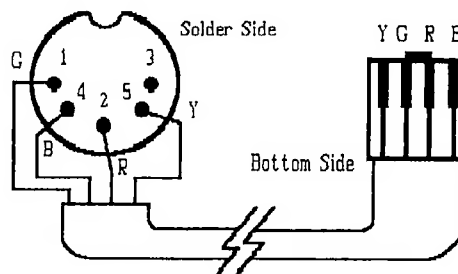

Figure 2. Wire Connection Diagram.
Refer to the schematic shown in Figure 2. The 5-pin DIN jack is viewed from the solder side. The modular handset cable is viewed from the bottom. The four copper conductors face you, the plastic tab faces away from you, and the cable dangles toward the floor. The wires in my cable were different colors, and those are indicated in the figure.
5) Now, you must identify the wires. Hold the modular plug as described above, being careful not to let the DIN jack's sleeve slide off. Look at the area of the plug between the four copper-colored conductors and the cable. You should be able to see each wire's color through the plastic, as well as which conductor each wire connects to. If your wires are different colors, you are in luck. Simply substitute your cable's wire colors for those shown in Figure 2.